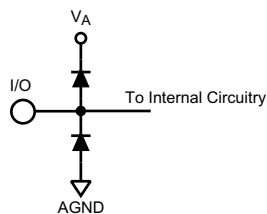

Figure 1.
- (1) The inputs are protected as shown below. Input voltage magnitudes above V_A or below GND will not damage this device, provided current is limited per Note 4 in the Absolute Maximum Ratings table. However, errors in the A/D conversion can occur if the input goes above 2.6V or below GND as described in the Operating Ratings section, see Figure 1.
- (2) With a full scale differential input of 2V_{P-P}, the 14-bit LSB is 122.1 μV.
- (3) Typical figures are at T_A = 25°C and represent most likely parametric norms at the time of product characterization. The typical specifications are not guaranteed.
- (4) This parameter is specified in units of dBFS - indicating the value that would be attained with a full-scale input signal.
- (2) With a full scale differential input of $2V_{P-P}$, the 14-bit LSB is 122.1 μV .
- (3) Typical figures are at $T_A = 25^\circ\text{C}$ and represent most likely parametric norms at the time of product characterization. The typical specifications are not guaranteed.
- (4) This parameter is guaranteed by design and/or characterization and is not tested in production.